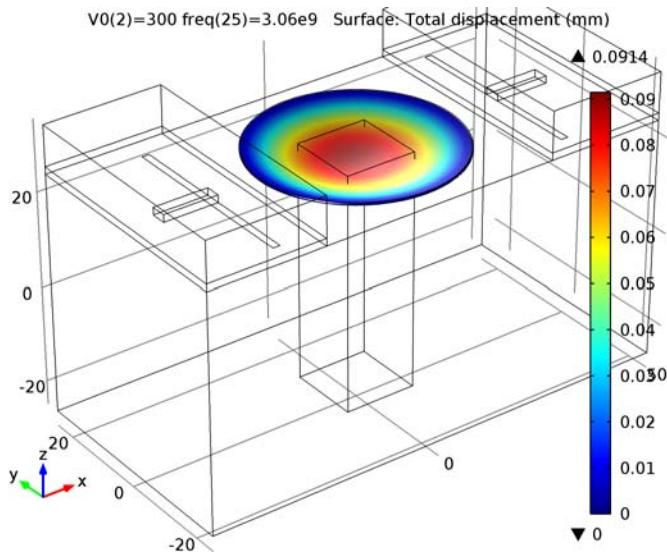
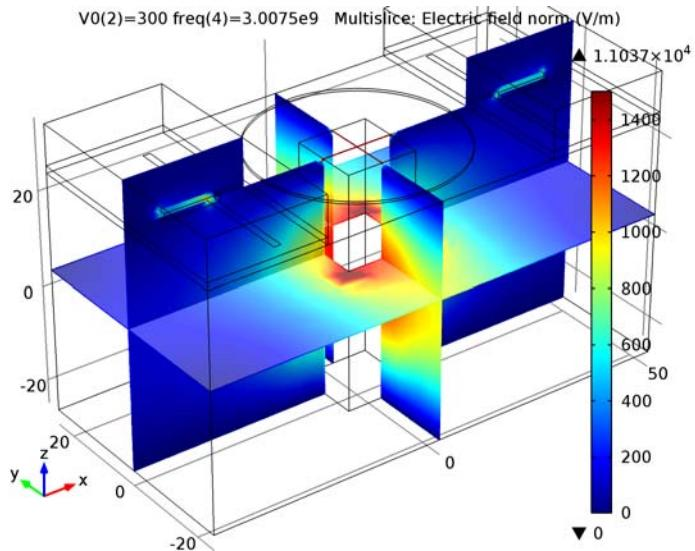

Figure 2: This plot shows the total piezo displacement when 300 V is applied on the actuator. The visualization is exaggerated to emphasize the deflection.
Figure 3: The dominant mode inside the cavity is observed from the electric field distribution plot.
- 7 Click the **Plot** button. Compare the resulting plot with that shown in Figure 2.
- 15 Locate the **Coloring and Style** section. From the **Color** list, choose **Blue**. Compare the resulting plot with that shown in Figure 3.
A +300 V potential is applied across the piezo actuator, which causes the device to deflect ~90 μm toward the bottom; see Figure 2. This makes the reactance stronger and shifts the resonant frequency lower than the negative bias case. Figure 3 plots the electric field norm at the resonance. At the center of the cavity as well as in the gap